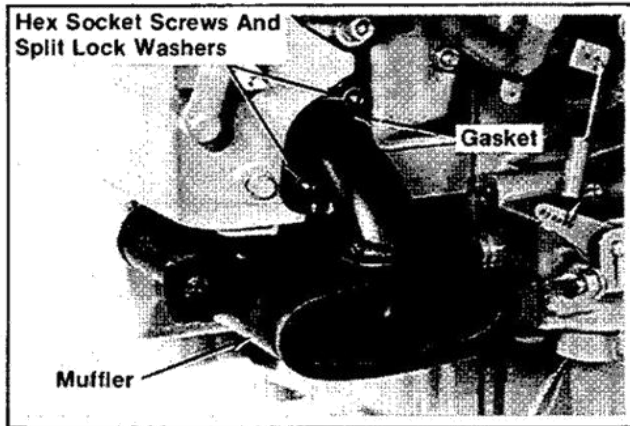

Figure 9-2. Removing Mufflers.
1. Remove the hex socket head screws, split lock washers, mufflers, and gaskets. Refer to Figure 9-2.